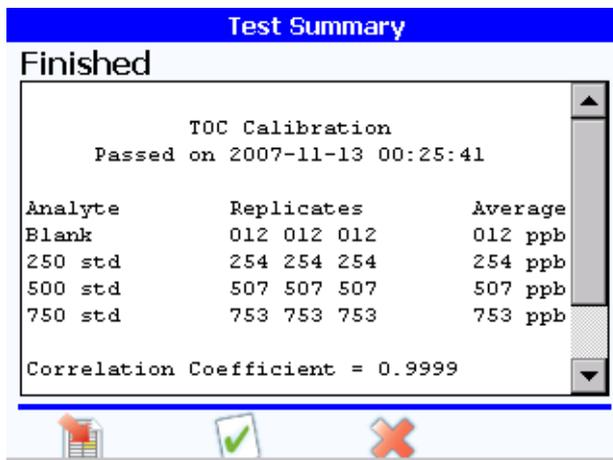
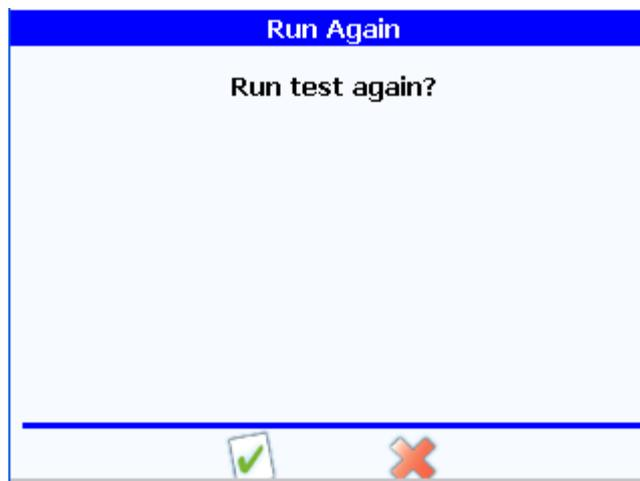

Figure 6-11 Test summary dialog box
Figure 6-13 Run again dialog box
- 11) When the backflush and equalization is completed, the test summary dialog box appears, with the results of the calibration and a notification of whether the calibration failed or passed. The results also appear on the printout if a printer is attached. See Figure 6-11.
- 13) If the test failed or you have rejected the calibration, touch the cancel icon, then touch the checkmark icon to run the calibration again (see Figure 6-13) or the cancel icon to cancel the run.
- 11) When the validation is completed, the test summary dialog box appears, with the results of the validation and a notification of whether the validation failed or passed. The results also appear on the printout if a printer is attached. See Figure 6-11, page 94. Touching the forward icon takes you to the run again dialog box (Figure 6-13, page 95). If the test failed or you have rejected the calibration results, at the run again dialog box, touch the checkmark icon to run the validation again or the cancel icon to cancel the run.